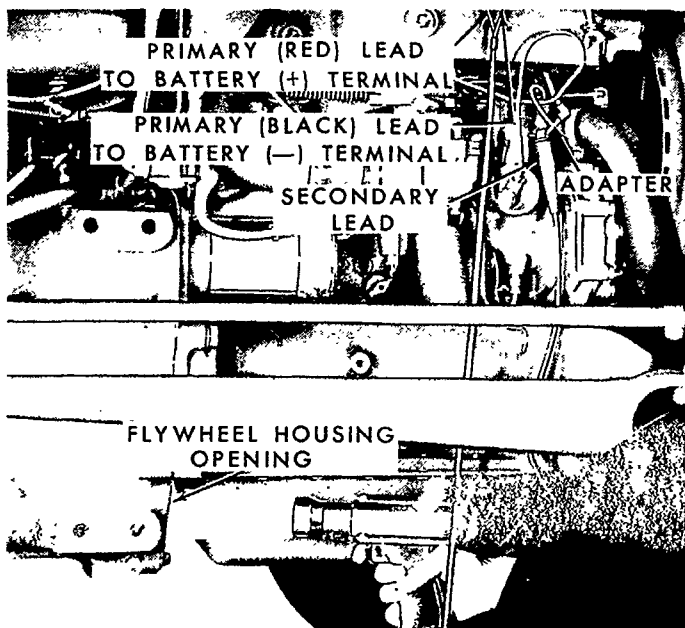

Figure 60
1. Disconnect the No. 1 spark plug wire from the distributor cap. Plug a timing light adapter, similar to the one shown in Figure 60, into the distributor cap and into the spark plug wire. Connect the secondary (high tension) lead of the timing light to the adapter.
3. Start the engine and direct the timing light onto the flywheel housing opening, Figure 60. The timing should be as outlined in the specifications, page 69.